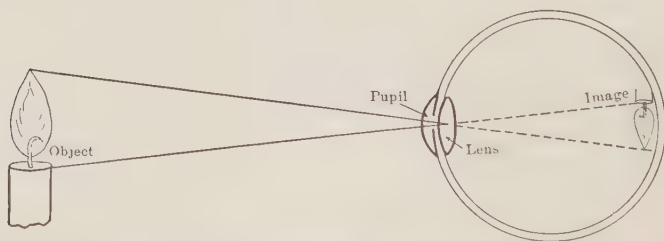

FIGURE 616. — The eye is a miniature camera forming on its retina images of objects around us.
**426. The Eye.** — The eye is the most interesting and important optical device (Figure 616). It may be simply described by comparing it with a camera, since it consists of a chamber into which light is admitted through a small opening, the *pupil*, to be focused by a convex lens upon a sensi-